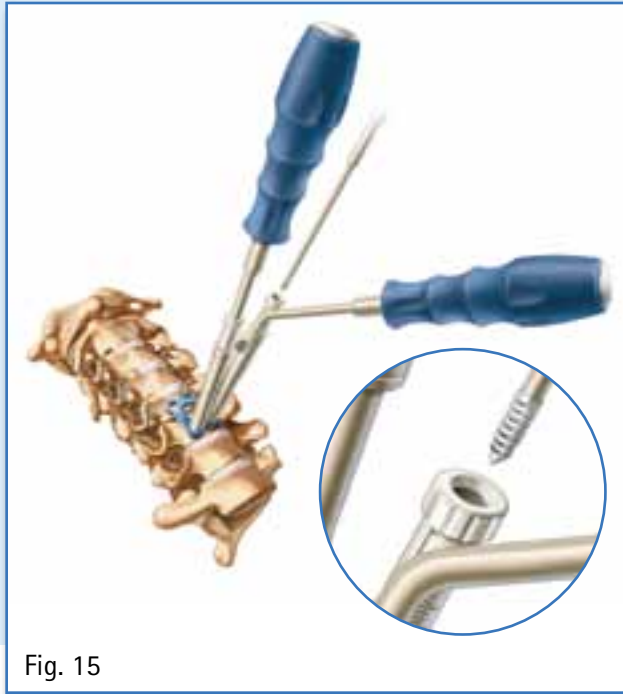

Fig. 15
2. Repeat for the contralateral side and any remaining screw holes. (Fig. 15)